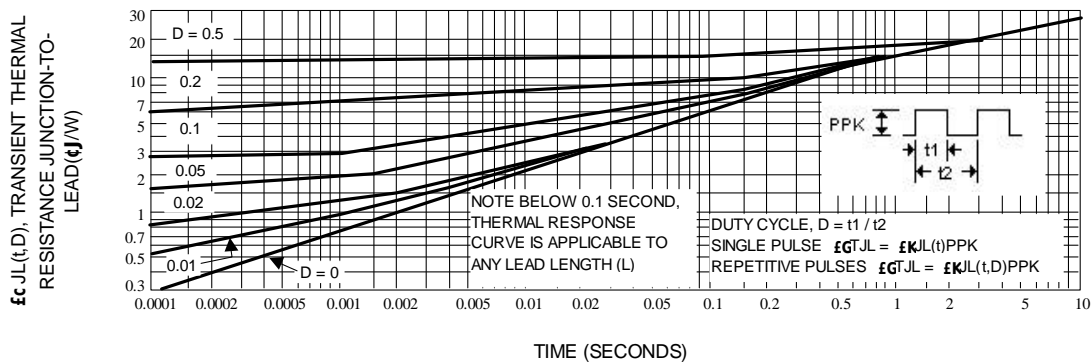
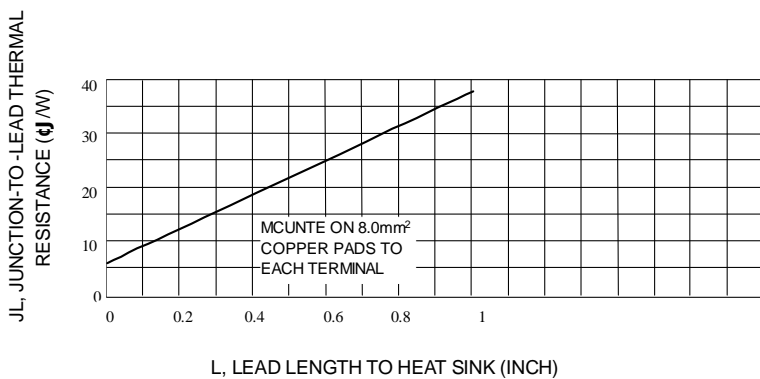
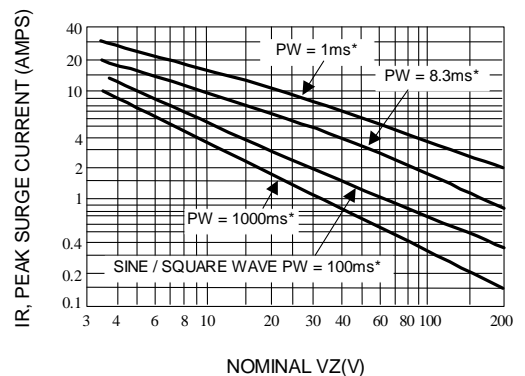
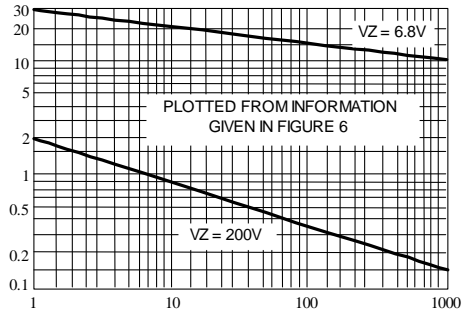

Fig. 3-TYPICAL THERMAL RESPONSE
Fig. 4-TYPICAL THERMAL RESISTANCE
Fig. 5-MAXIMUM NON-REPETITIVE SURGE CURRENT VERSUS NOMINAL ZENER VOLTAGE (SEE NOTE 3)
Fig. 6-PEAK SURGE CURRENT VERSUS PULSE WIDTH(SEE NOTE 3)
3. SURGE CURRENT (I_r) - Surge current is specified as the maximum allowable peak, non-recurrent square-wave current with a pulse width, PW, of 8.3 ms. The data given in Figure 5 may be used to find the maximum surge current for a square wave of any pulse width between 1 ms and 1000ms by plotting the applicable points on logarithmic paper. Examples of this, using the 6.8v and 200V zeners, are shown in Figure 6. Mounting contact located as specified in Note 3. ($T_A=25^\circ\text{C}$).
ΔT_{JL} is the increase in junction temperature above the lead temperature and may be found from Figure 3 for a train of power pulses or from Figure 4 for dc power.
Data of Figure 3 should not be used to compute surge capability. Surge limitations are given in Figure 5. They are lower than would be expected by considering only junction temperature, as current crowding effects cause temperatures to be extremely high in small spots resulting in device degradation should the limits of Figure 5 be exceeded.
*** Data of Figure 3 should not be used to compute surge capability. Surge limitations are given in Figure 5. They are lower than would be expected by considering only junction temperature, as current crowding effects cause temperatures to be extremely high in small spots resulting in device degradation should the limits of Figure. 5 be exceeded